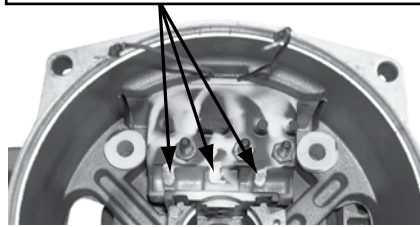

Fig 5
Step 6: Snap off three standoffs on brush box with needle nose pliers before installing rectifier. See Fig 5